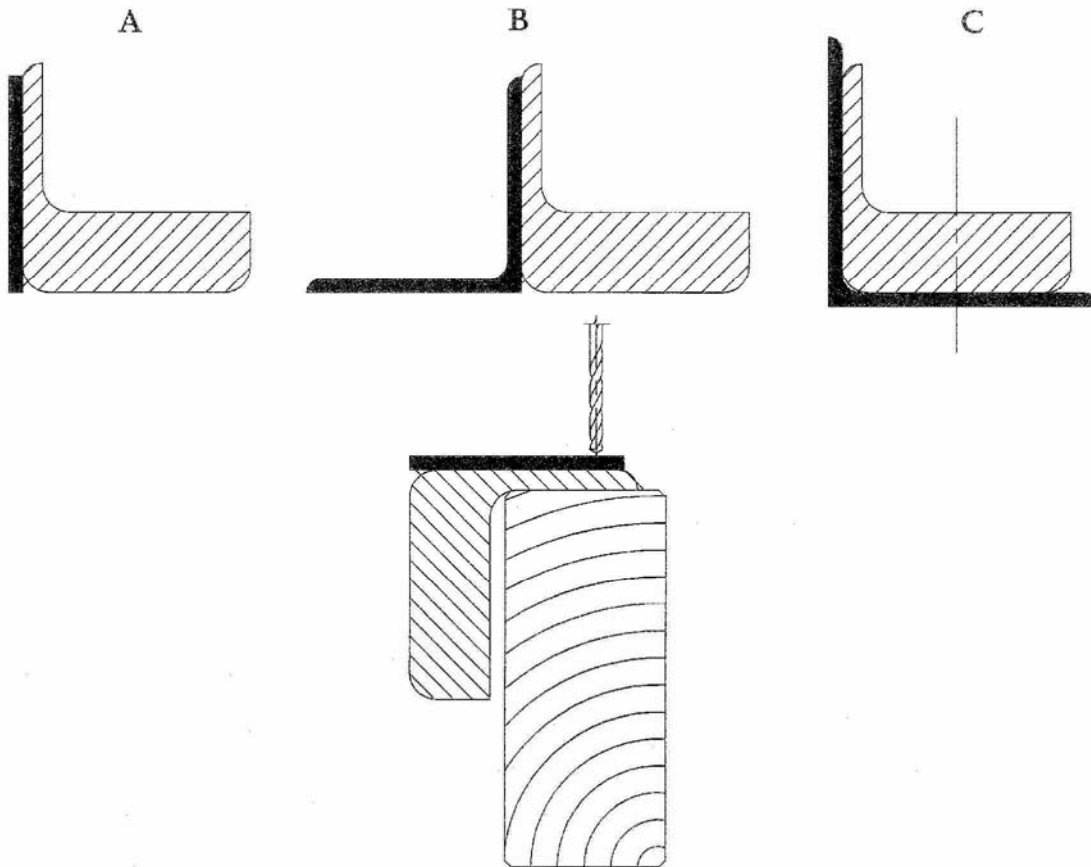

Figure 4.1.1): Spar Cap Flange Drill Template Options
- 4.1.1) This is done by transferring the hole pattern from the old spar cap to a template first. A 20' long bar of aluminum or steel, 1/8" thick and 2 to 2 1/2 inches wide, works well. Angle iron and aluminum has also been used successfully. See Figure 4.1.1).
4.1.4.1) Figure 4.1.1 shows some possible templates for transferring the holes from the old spar cap to the new one. With any of them, it is critical to establish the location of the inboard end of the spar cap. A scribe line is sufficient. If type C is used, drill through the second (5/16") hole in the old spar cap to positively locate the spar cap. If using type A or B, be very careful to align the bottom edge of the spar cap and the template. Type C can only be used if the corners of the cap are radiused, as shown. A single piece of angle can serve as a type B or C template for both left and right caps, but it must be at least 2 1/2 x 2 1/2.